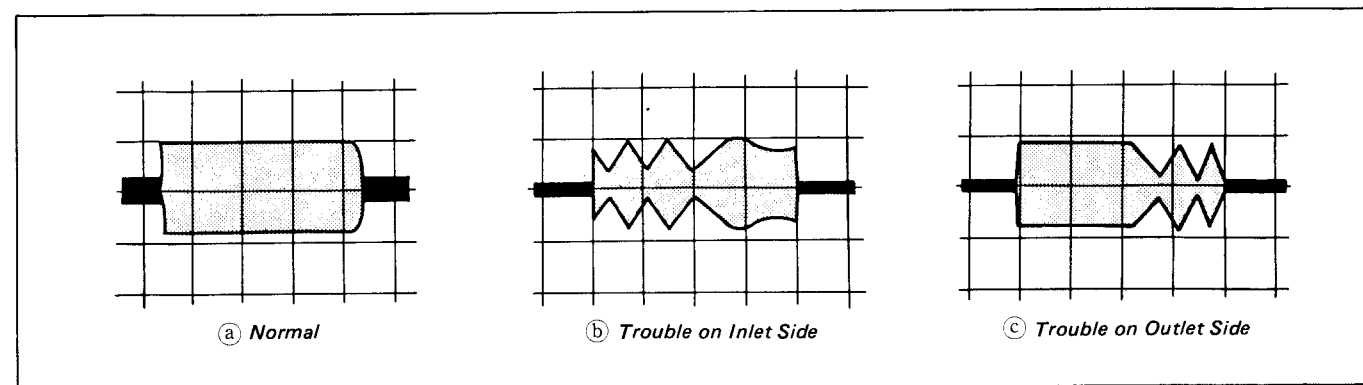

Fig. 1-71
3) Replay the tracking alignment tape (WR5-1N) and check that the RF waveforms are flat (Fig. 1-71 a) on the inlet and outlet sides. If not, adjust as follows.
- If RF waveform on inlet side is not flat. (Fig. 1-71 b) . . . Adjust as instructed in 1-4-2 Inlet side adjustment.
- If RF waveform on outlet side is not flat. (See Fig. 1-71 c) . . . Adjust as instructed in 1-4-3 Outlet side adjustment.